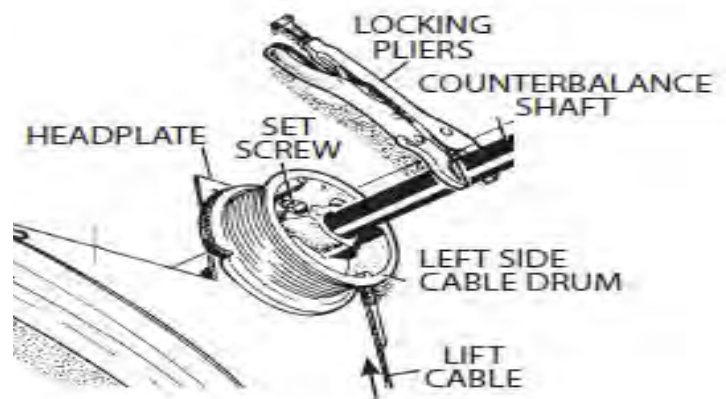

Figure 23
Step 27: Inside looking out, feed the loose end of the left hand lift cable up and over the back side of the cable drum and hook the cable stop through the notch on the drums. See figure 23
Step 28: Slide the red drum (left hand) out until it butts up against the bearing on the end bearing plates. Turn the drum until all the slack is out of the cable, making sure cable follows in the grooves of the drum and tighten the set screw until it dimples the torsion shaft. Using a vise grip securely clamp the torsion shaft so the cable on the left side is taut and the vise grip is braced against the header. See figure 23. **Do not over tighten the set screws as drum damage may occur. There should be at least 1/2 pre-wrap of cable on the cable drums.**